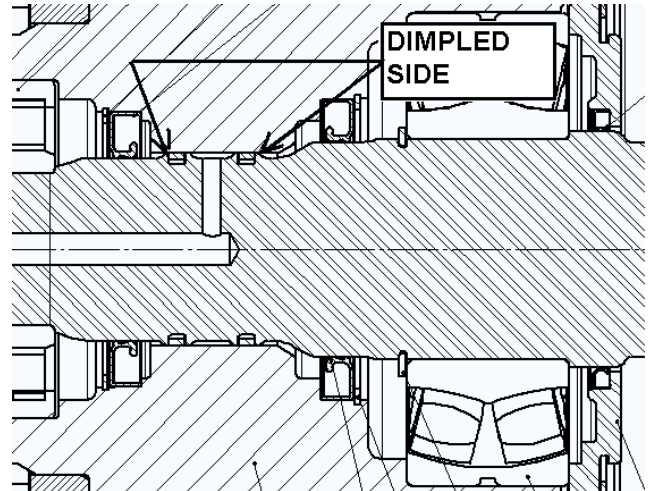

Figure 1
2. Install qty of 2, seals (Items 16 & 12) into bore in endcover (Item 2). Press seals lightly. *Note the direction of seal lip on drawing per Figure 1.*